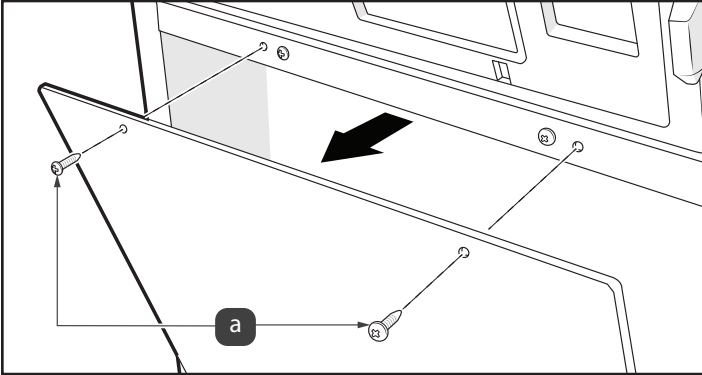

Figure 7. Remove Dead Front Screws
2. Remove 2 retaining screws on top of the High Voltage cover panel, see Figure 7(a).